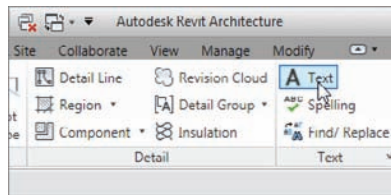

FIGURE 5.48 Click the Text button on the Text panel of the Annotate tab.
3. On the Text panel of the Annotate tab, click the Text button, as shown in Figure 5.48.